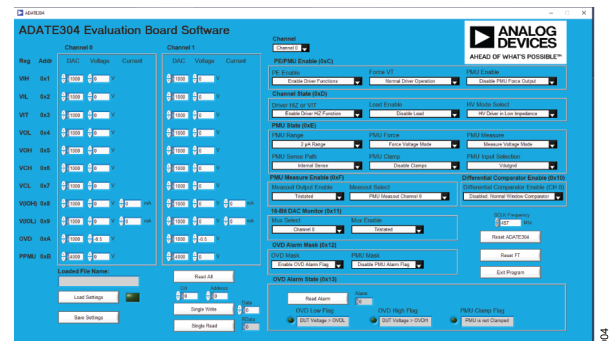
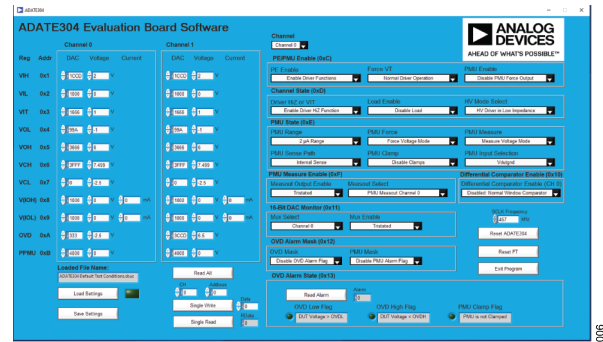
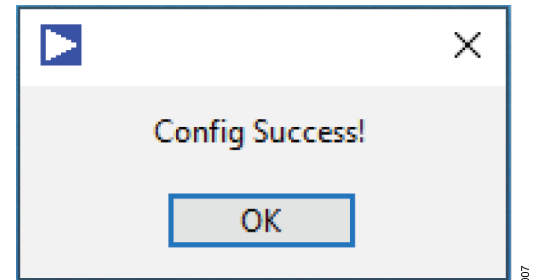

Figure 4. ADATE304 Main Window
Figure 7. User Interface Default Values
Figure 8. Configuration Success Prompt
- a. When the **ADATE304 Evaluation Board Software** opens, the main window opens if there are no issues (see Figure 4) and displays configuration success (see Figure 8). Otherwise, a command prompt indicating any error appears. Figure 5 shows an examples of error prompt. Follow all the recommendations within the prompt window before attempting to start the software again.
- c. To verify the hardware communication, load the **ADATE304 Default Test Conditions.sbus** file. If the EVAL-ADATE304BBCZ successfully communicates with the PC, the software user interface (see Figure 7) reflects the default values (see the ADATE304 data sheet for more information). If the user interface does not reflect the default values, perform the following steps:
6. Open the **ADATE304 Evaluation Board Software**, the command prompt displays configuration success (see Figure 8). Then, load the ADATE304 **Default Test Conditions.sbus** file to confirm if the user interface reflects the default values of the registers (see Figure 7).
2. When the search displays the **ADATE304 Evaluation Board Software**, select it. The main **ADATE304 Evaluation Board Software** window opens as shown in Figure 4. Load the `adate304_default.sbus` file after startup.
- ▶ The FT reset and clock speed controls are located in the lower right of the GUI (see Figure 4).